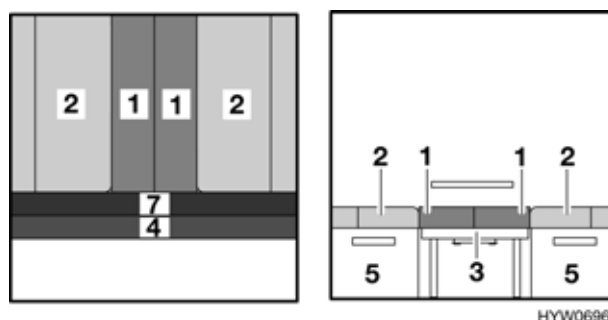

Fig. 75 After conversion
- Place both back cushions (Fig. 75,1) in the middle.
- Lay the additional cushions (Fig. 75,4 and 7) on the bedding box extension.